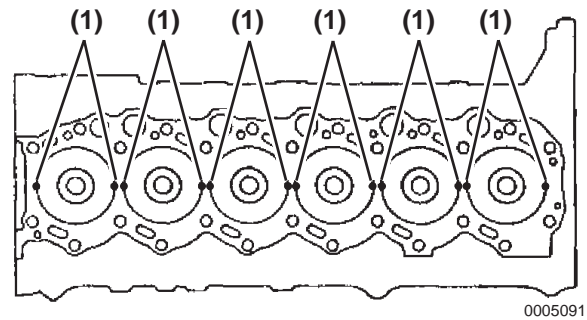

Figure 5-63
- 2 – Piston Protrusion (P)
5. Measure each cylinder at two points for a total of 12 points (**Figure 5-63, (1)**).